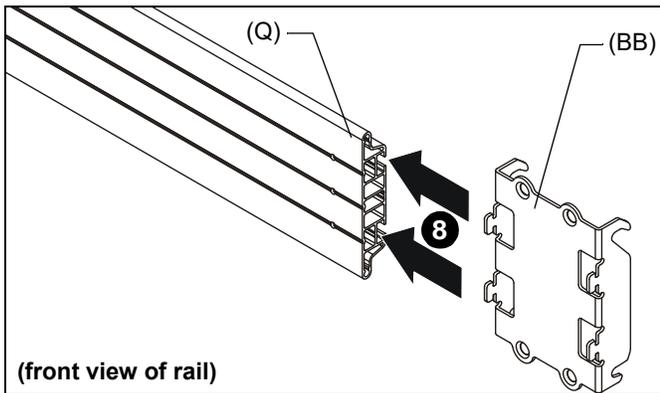

Figure 21
- Slide height adjust plates (BB) into open end of mounting rail (Q). (See Figure 21)
- LWM2X1UM/LWM3X1UM: Insert two plates (BB)
- LWM4X1UM/LWM5X1UM: Insert three plates (BB)